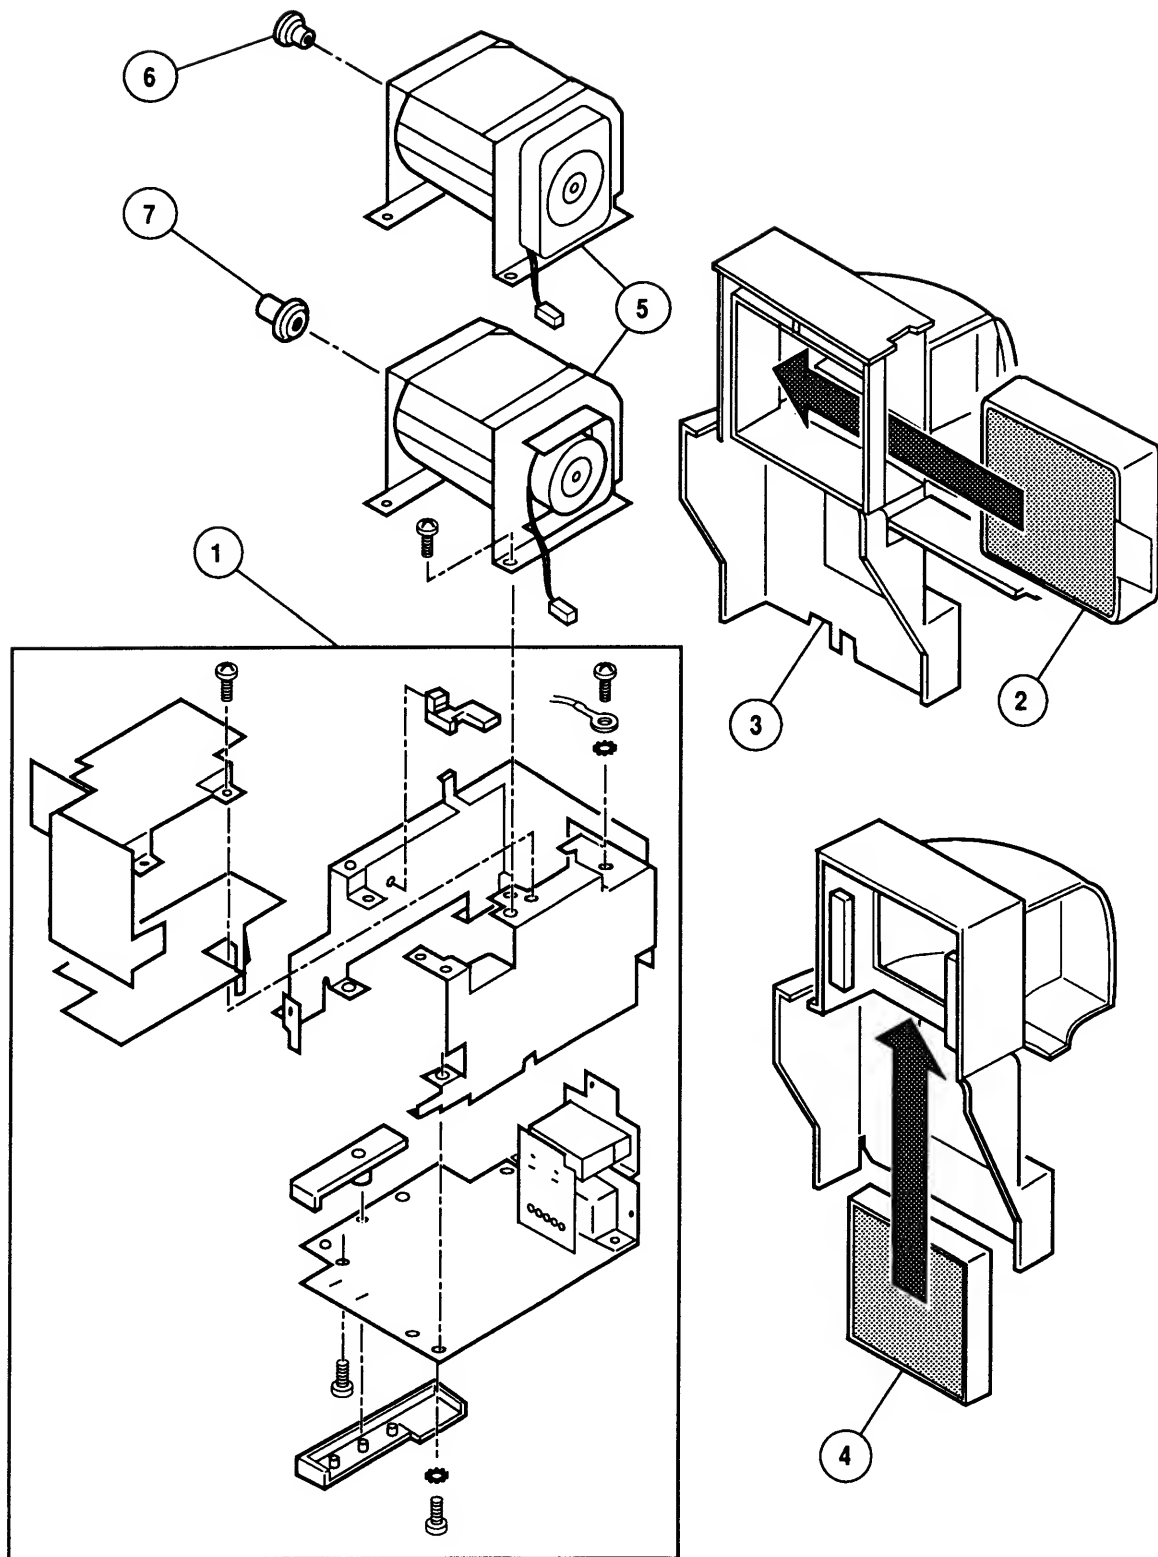

FIGURE 6
IPL.13	Power Cord Terminal Assembly (Figure 6)
□ POWER CORD TERMINAL ASSEMBLY (Figure 6)